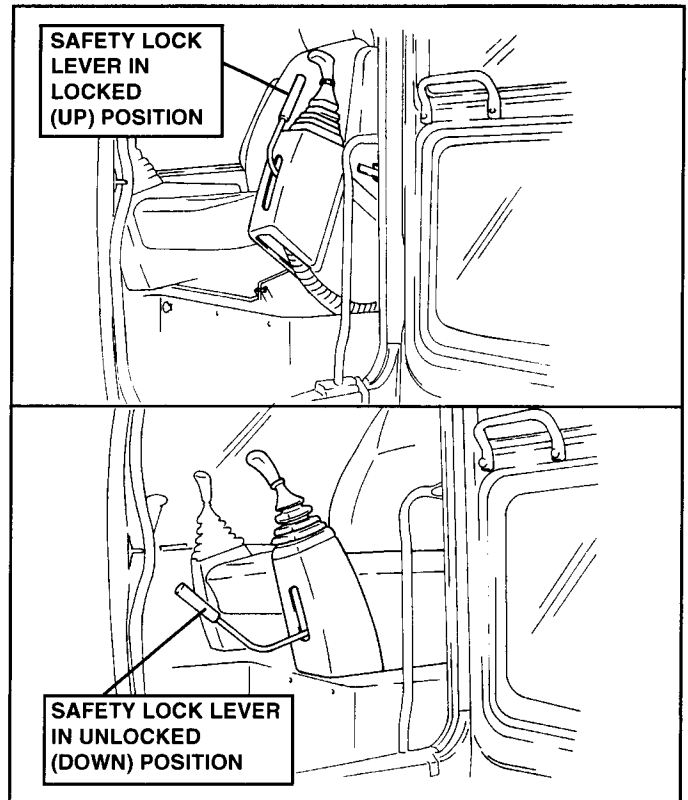

FIGURE 2.27
1. Safety Lock Lever – FIGURE 2.27